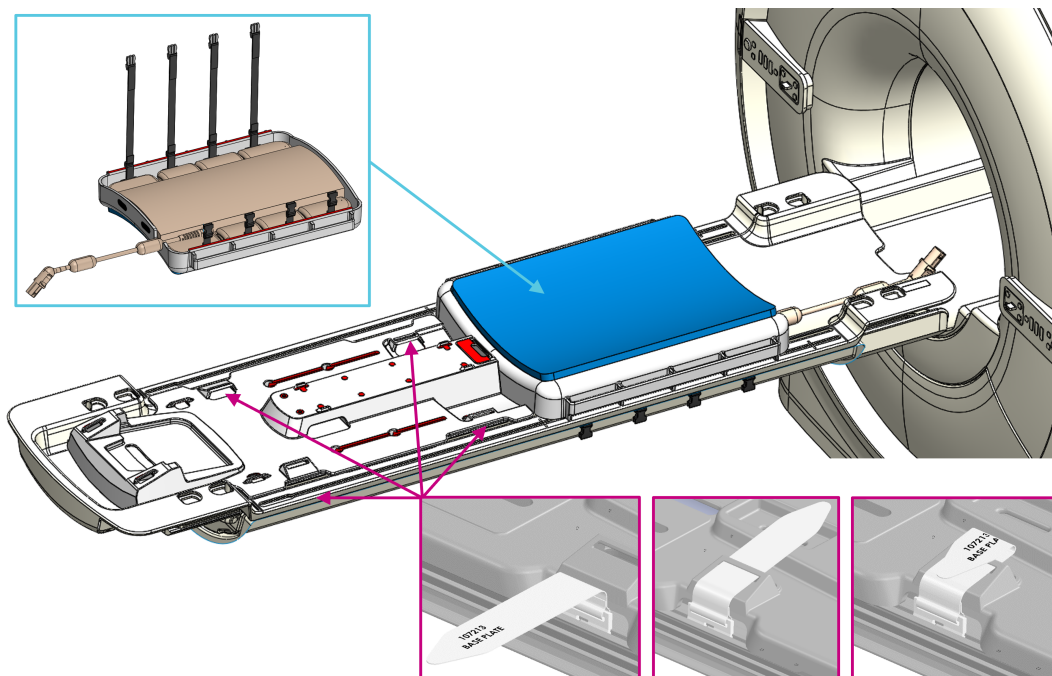

Figure 3: Securing base plate, coil holder (top), and patient pad (bottom)
2. Place the coil in the TULSA-PRO Coil Holder, buckle the straps, and cinch them tightly. Place the Coil Holder with the posterior coil onto the MRI table, with the cable exiting the coil holder towards the head of the MRI table. Place the TULSA-PRO® head pad above the coil holder (*Figure 3*).